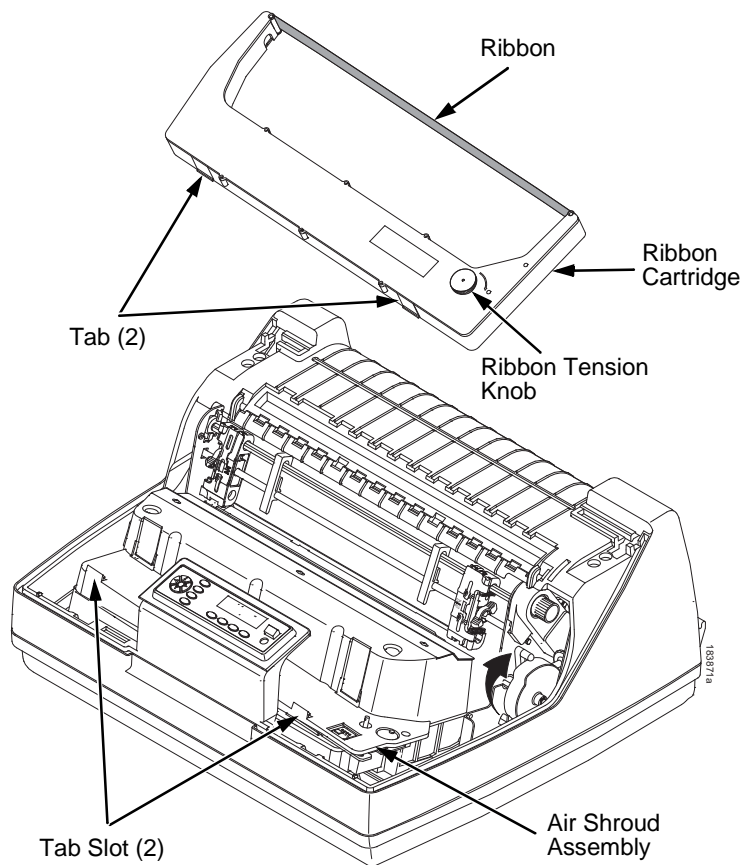

Figure 2. Installing the Ribbon Cartridge
5. Hold the cartridge at an angle, so that the rear side nearest you is lower than the side with the ribbon. Find the two tabs on the outside of the cartridge and place them into the corresponding slots on the air shroud assembly (see Figure 2).